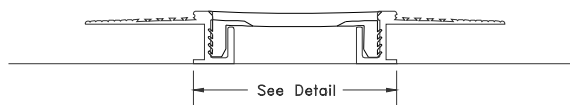

Figure 5
**STEP 4.** Insert one of the elastomeric seal's tabs into the channel in one of the base members. Ensure that the seal's tab is inserted completely into the channel. Insert the elastomeric seal's other tab into the other base member's channel (see Figure 5). Ensure that the seal's tab is inserted completely into the channel.